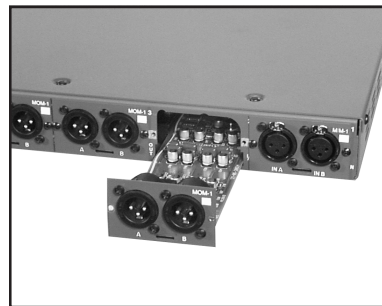

Figure 2-4 Card being inserted.
6. Being careful to avoid scraping the underside of the board, slide the new module into the bottom slots on the card guides located inside the opening. Push the module into the unit until you feel resistance. See Figures 2-4 and 2-5.